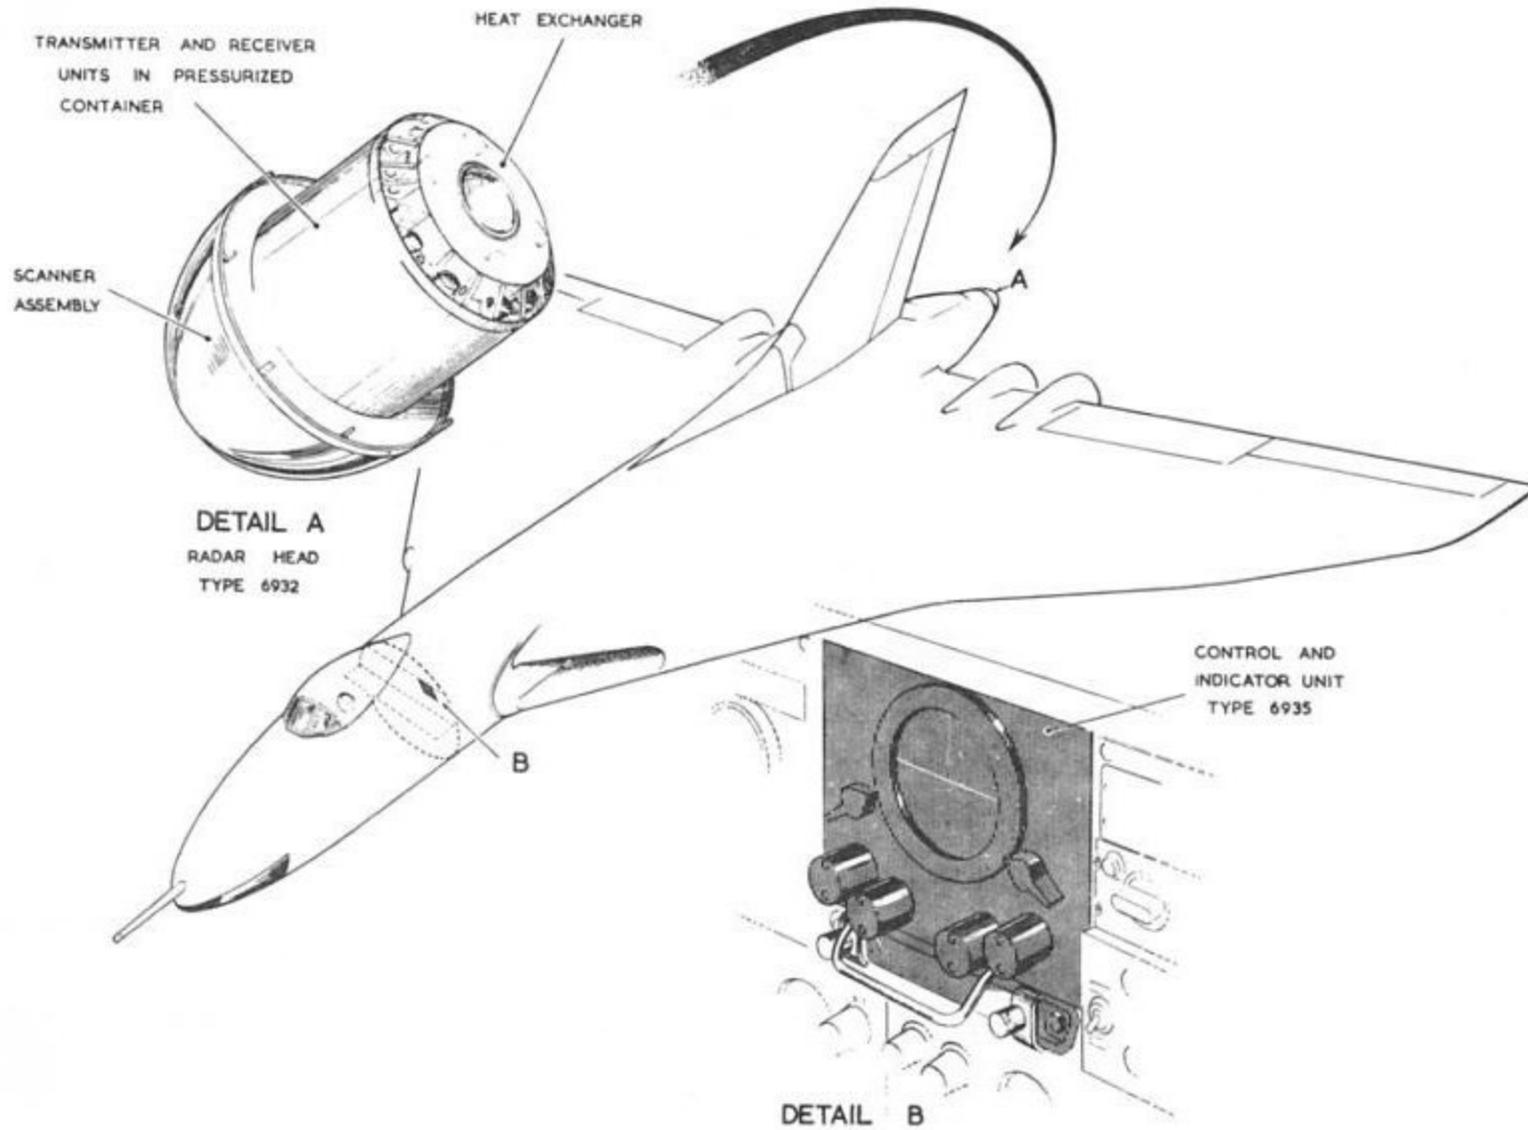

Fig. 1. Location of A.R.I. 5919 equipment.
4. A location diagram of the major components is provided in fig.1. A connector table is contained in the text and a routing chart will be found at the end of the chapter.
7. The indicator unit, Type 6935, is installed on an anti-vibration tray on the navigator's panel at the A.E.O's station as in fig.1. This unit combines the functions of indicator and control unit for the installation. A rotary switch provides for the selection of warm up, stand-by or transmit condition of the circuits in the radar head. A C.R.T. display provides location and distance indication in three time base ranges as follows:-